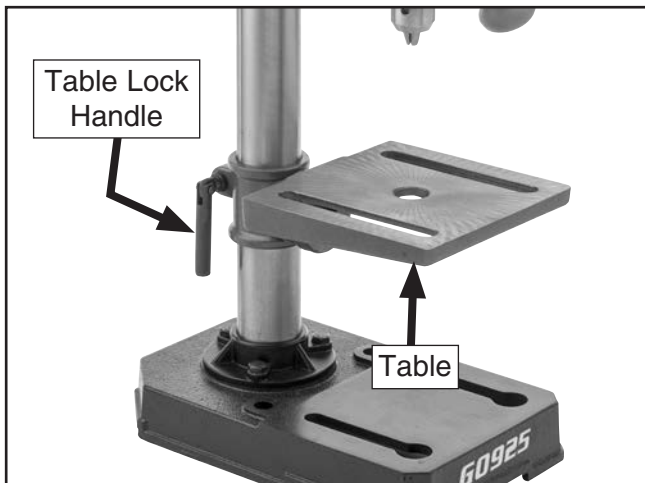

Figure 24. Table position adjustment controls.
1. Loosen table lock handle shown in **Figure 24**.